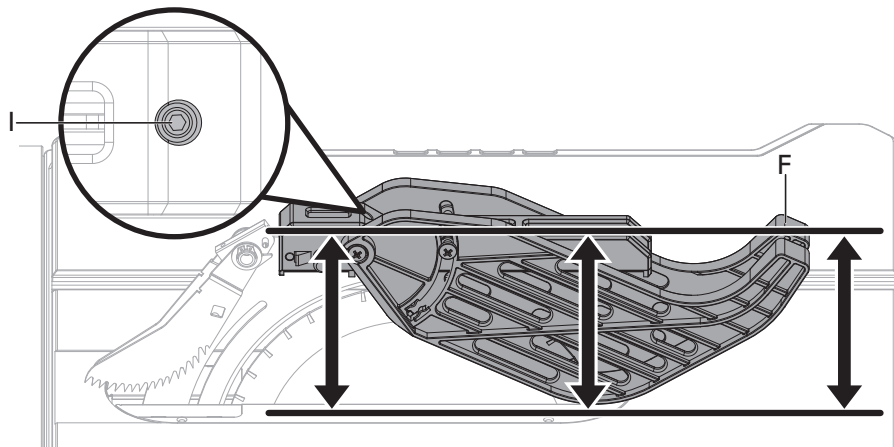

Fig. 10c
- If blade guard is not parallel to table when riving knife is in uppermost position (through cuts), adjust the set screw (I) as necessary. (Fig. 10c)